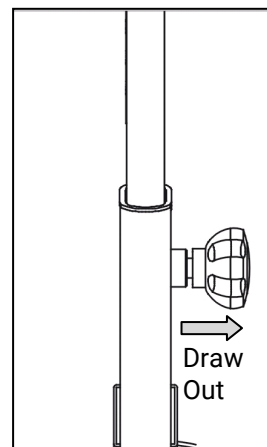

Fig 2.6-2A
- 1) Untighten and draw out the knob. (Fig 2.6-2A)